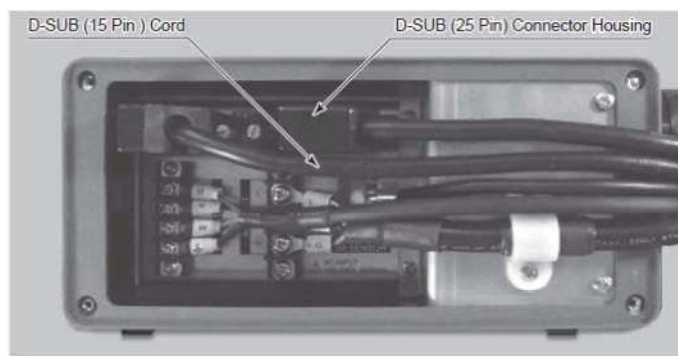

Fig 12
- (1) Place the all cords in the provided wiring space (Fig. 12).